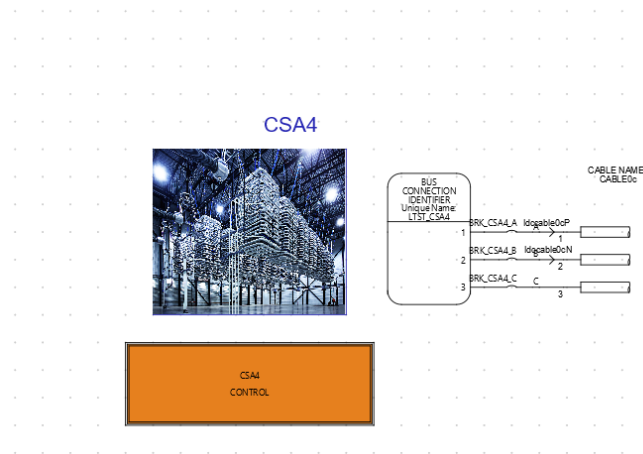

Figure 4.1: Control of CSA4.
- Step 3: The control is implemented using NNs for the converter CSA4, so by opening its control as seen in Fig. 4.1.